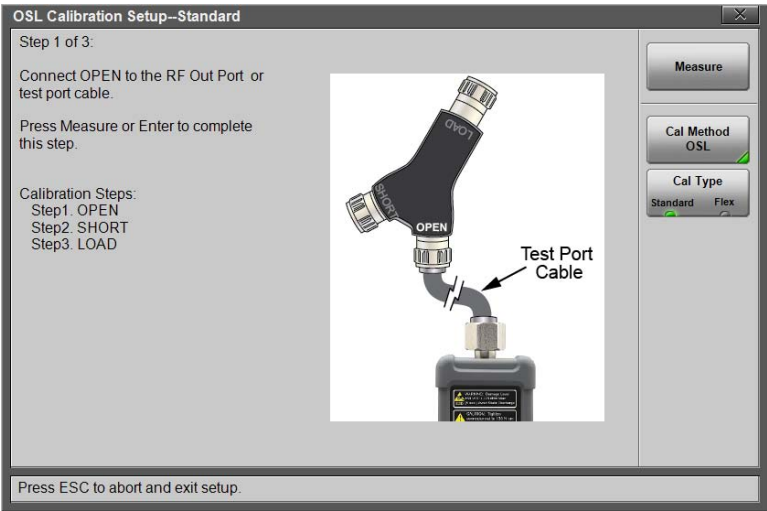

Figure 5-2. Calibration Setup OSL Cal
4. Press **Measure** and follow the on-screen instructions (Figure 5-2 on page 5-5).